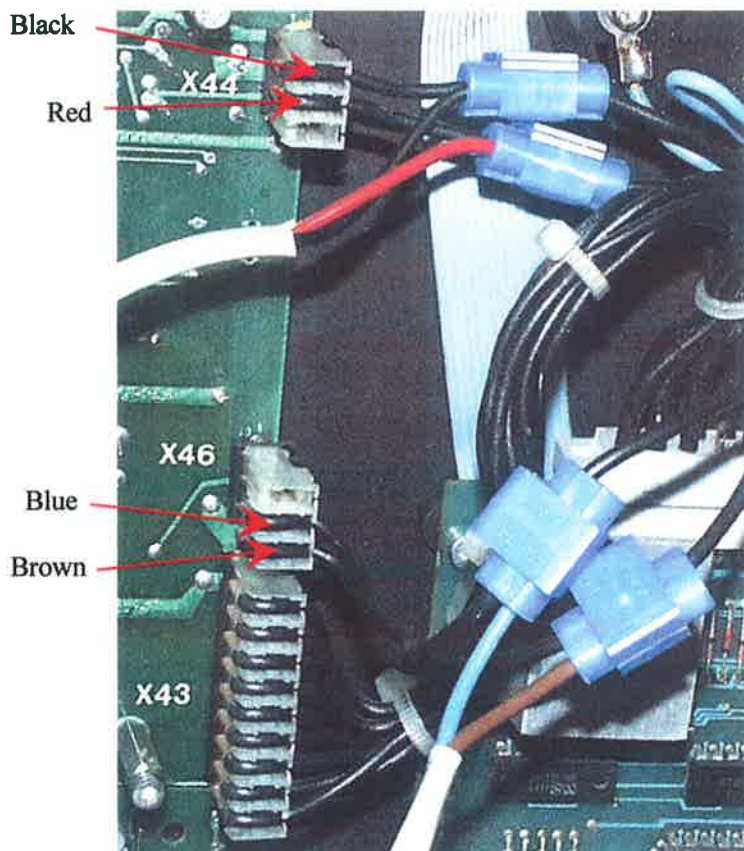

Fig 7 Splicing the new controller's wires
- 19) Refer to Fig 7 and note the wires from connectors X44 and X46. Remove cable ties to free sufficient wire to fit Scotchlok splicers as shown.
- 21) Take great care to correctly splice the black, red, blue and brown wires from the WELturn controller pcb to the existing wires as shown in Fig 7.